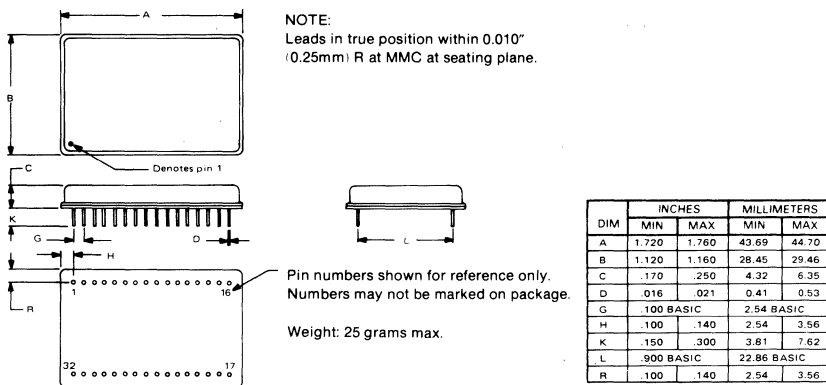

FIGURE 1. Case Outline (Triple-Wide DIP Configuration).
1.2.3 Case outline. The case outline is as defined in Figure 1. The case is metal and is conductive.